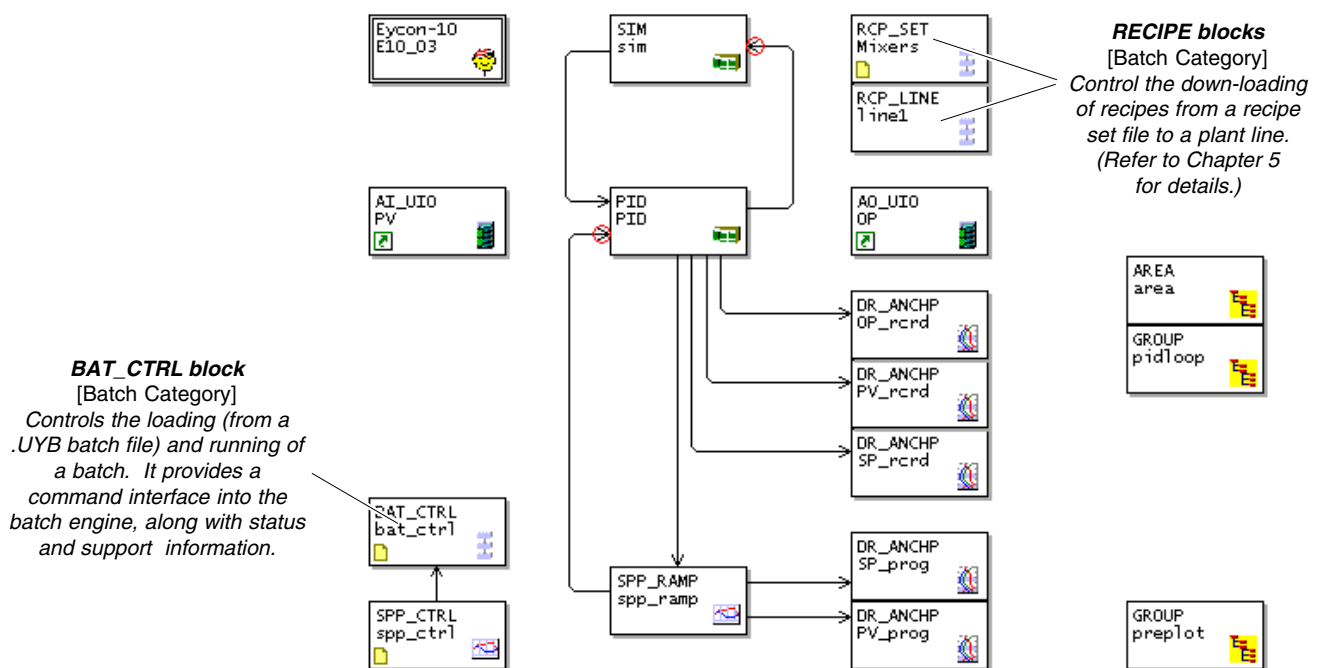

Figure 6-1 The program-driven batch strategy (simulated)
Figure 6-1 shows the (simulation) programmer strategy you created in Chapter 3, but with a Batch Control block and two recipe blocks, Recipe Set and Recipe Line, added to give the strategy some batch and recipe functionality.
- 1 In the LINTools Engineering Studio, locate the required blocks as shown in Figure 6-1. The quickest way to do this is to open up the existing simulated setpoint programmer strategy as your starting-point, by double-clicking its icon in Explorer view. Save the strategy under a new name, e.g. 'batch.dbf'.
<hr style="border-top: 1px dashed black;"/> <p>Note *(Block type) blockname.field.subfield format, referring to Figure 6-1. New wiring is listed below the dashed line.</p> <hr/>
You must also edit the Name fields in all blocks, according to Figure 6-1 if you wish.
Note *(Block type) blockname.field.subfield format, referring to Figure 6-1